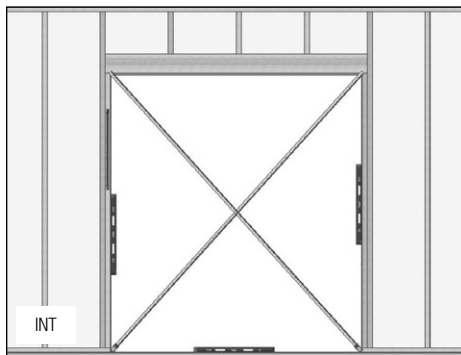

FIG. 4
- B) Verify the rough opening is plumb, level and square. (Fig. 4)
- C) Take diagonal measurements to check for square. (Fig. 4)